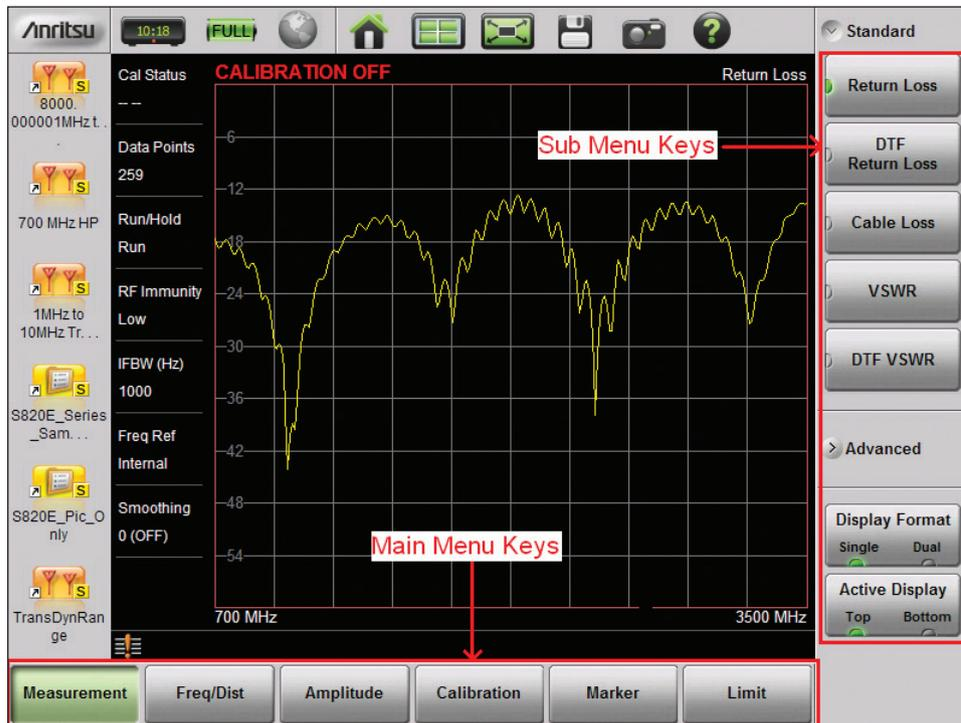

Figure 2. Basic layout of menu and submenu keys
2. Press “Freq/Dist”  main menu key (bottom row of keys, see Figure 2)
3. Press “Start Frequency (F1)”  submenu key (vertical column of keys on right side of display, see **Figure 2**) and set start frequency to 700 MHz. Set “Stop Frequency (F2)”  to 3.5 GHz.